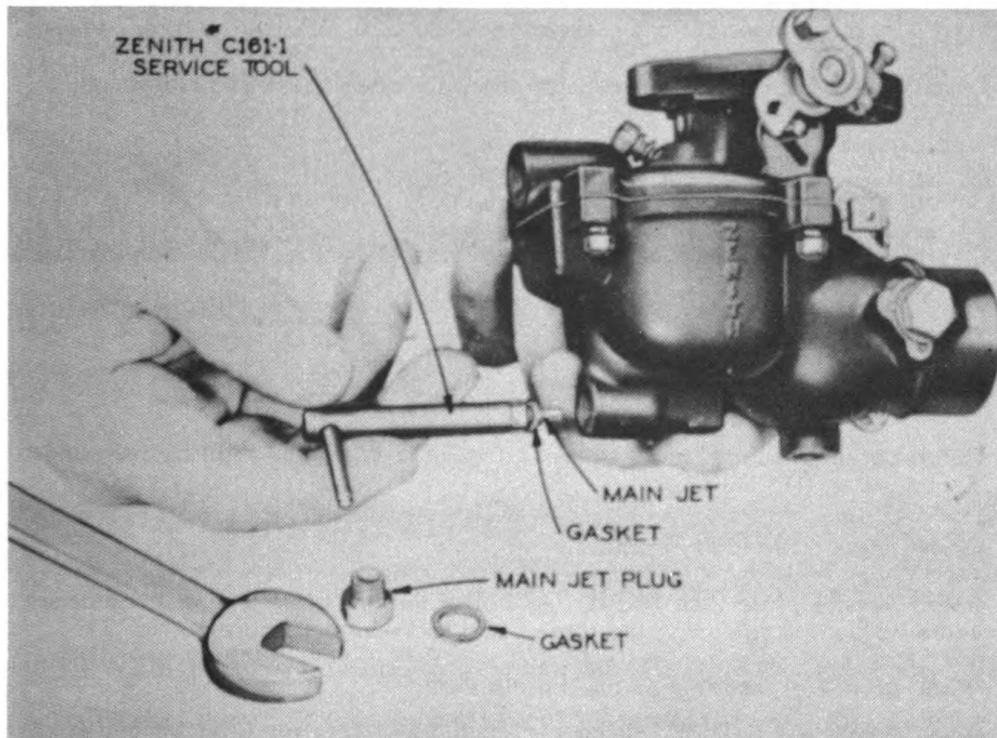

Fig. 111
18. Remove main jet (2) and gasket using a C161-1 Tool or a screwdriver. (Fig. 111)
7. Replace main jet (2) and new gasket using C161-1 Service Tool. (Fig. 111)
8. Install main jet-plug and new gasket using a $\frac{1}{2}$ " open-end wrench. (Fig. 111)